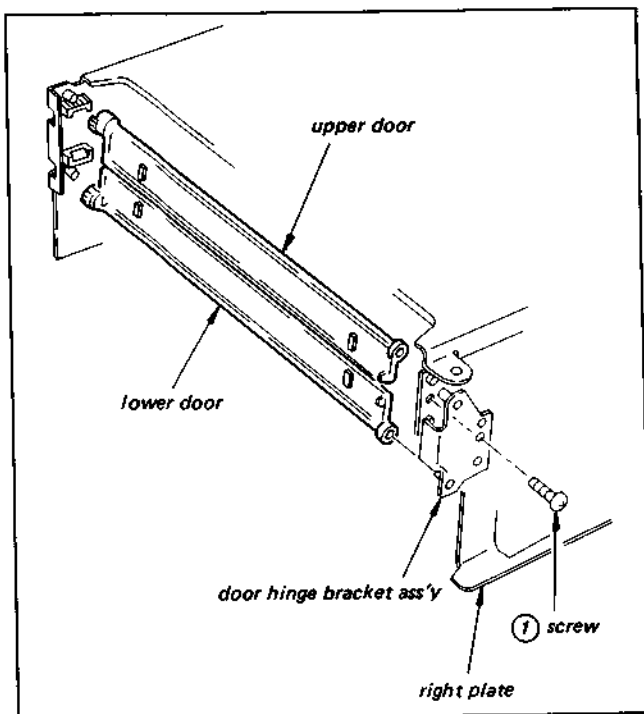

Fig. 3-34. Upper/lower door replacement (1)
- 1) Remove screw ① on the door hinge bracket assembly shown in Fig. 3-34.